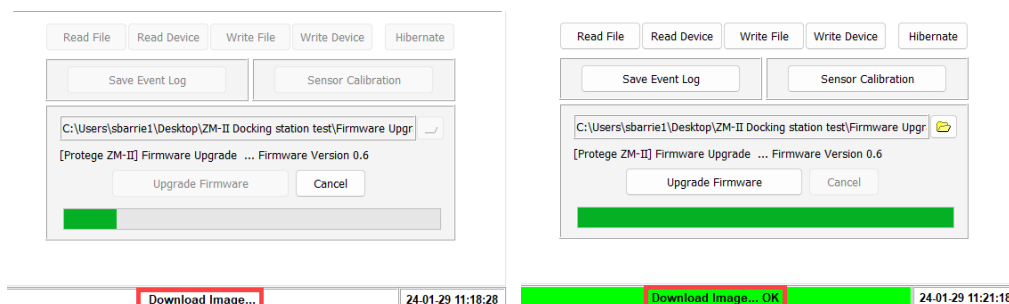

Figure 3-8: Firmware Upgrade in progress
4. A successful upgrade is indicated by a green OK bar at the bottom of the application window, as illustrated in Figure 3-8.